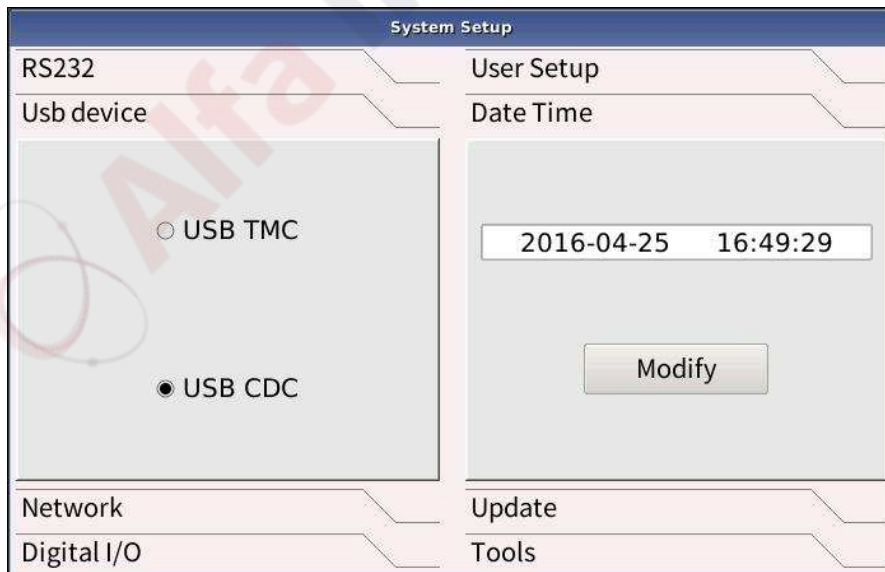

Figure 4-27 System Setup Page 2
**Operation:** (see Figure 4-27) Touch screen to click on the front round reel of USB TMC/USB CDC. The round reel is either all black or all white. Selecting USB TMC in all black indicates that the USB interface uses USBTMC Protocol, and selecting USB CDC in all black indicates that the USB interface uses the USB communication device class.
**Operation:** (see Figure 4-27) Touch screen and click on Nodify to modify the date and time displayed in the white box.